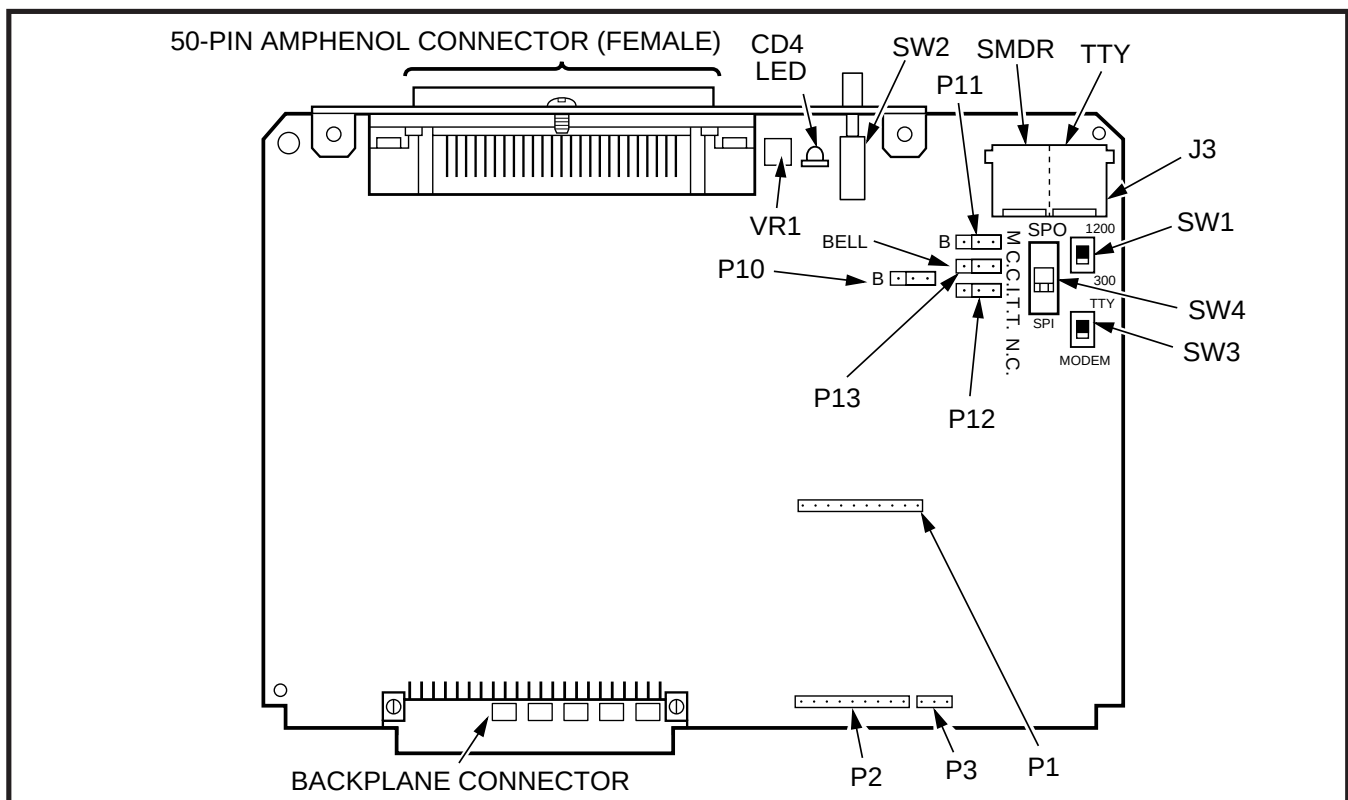
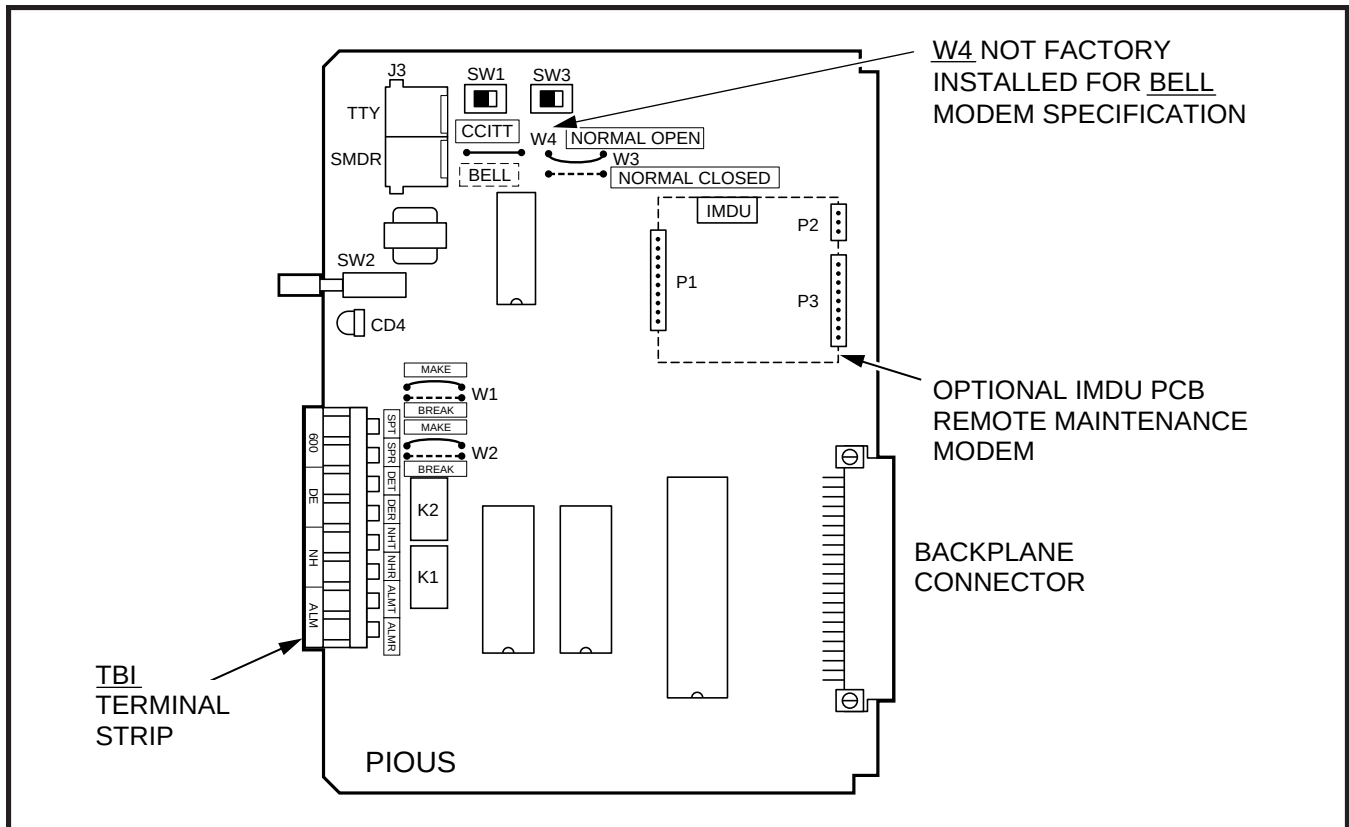

FIGURE 6-11
FIGURE 6-12
10.02 PIOU controls, indicators, and interface connectors are shown in Figure 6-11 and described in Table 6-G. PIOUS information is provided in Figure 6-12 and Table 6-H.